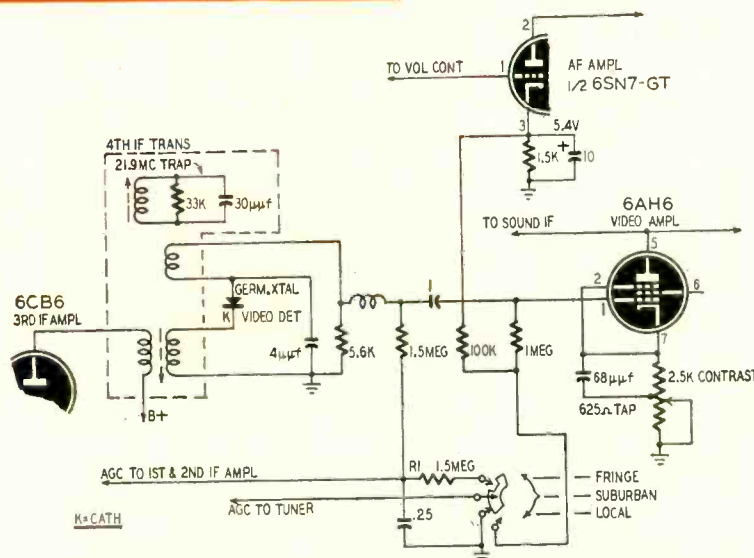

Fig. 1—Sensitivity-control switching in Motorola TS-400A TV chassis.
MANY modern television sets have auxiliary controls on the back for adjusting the sensitivity for optimum performance in weak-, medium-, and strong-signal areas. Fig. 1 shows the area-control circuit used in the Motorola TS-395A and TS-400A chassis. Slightly different versions are used in other late Motorola receivers. The LOCAL, SUBURBAN, and FRINGE settings adjust the sensitivity of the receiver for strong, medium, and weak signals, respectively.
i.f.-amplifier stages and through a 1.5-megohm isolating resistor (R1) to the r.f.-amplifier and mixer grids in the tuner. In the SUBURBAN position (that shown in Fig. 1) a.g.c. voltage is removed from the tuner, and the r.f.-amplifier and mixer grids are returned to ground. The FRINGE position is used when the incoming signals are weak, and the set must operate with maximum sensitivity. This grounds R1 and lowers the a.g.c. voltage on the i.f.-amplifier tubes to one-half the value applied in the LOCAL and SUBURBAN positions. In this position the video amplifier grid resistor is returned to ground to improve noise limiting ahead of the sync take-off point. The area selector control should be adjusted to the position which gives the clearest and most stable picture on all active channels.